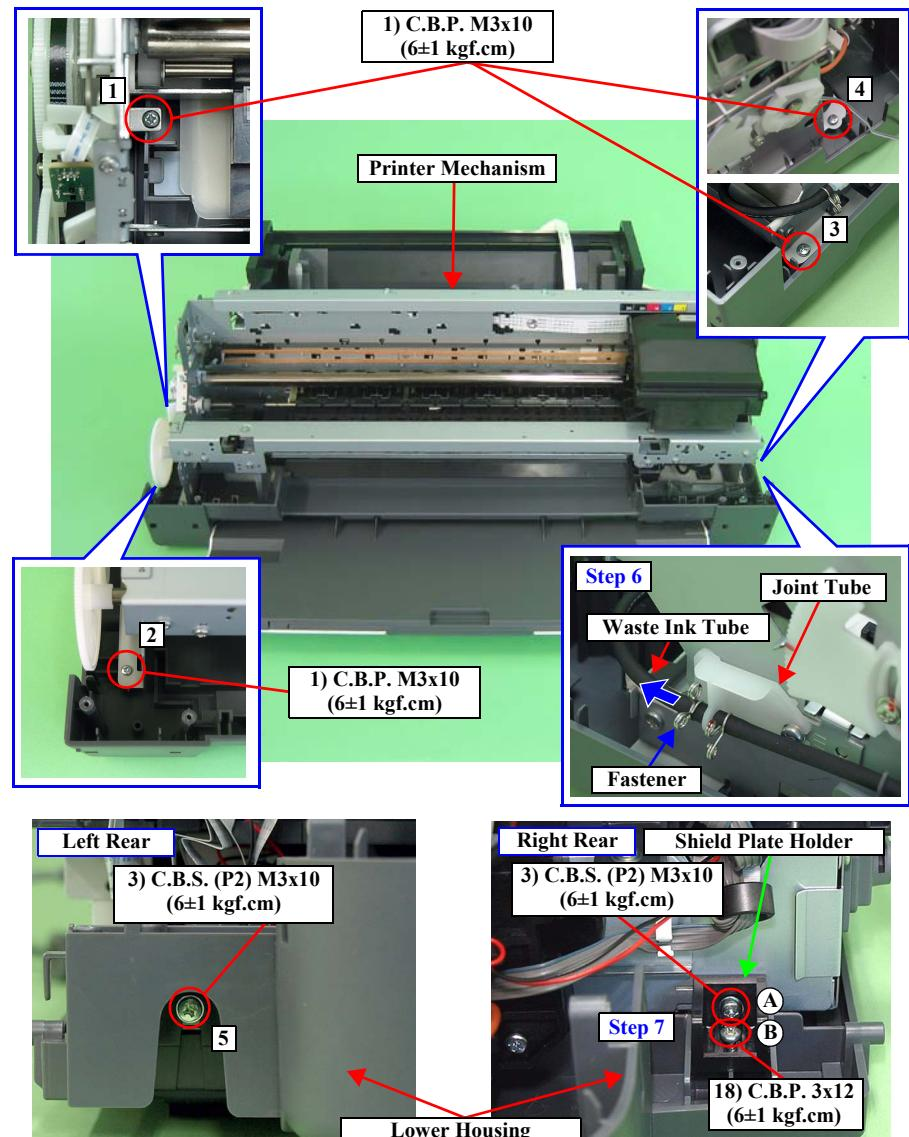

Figure 3-55. Screws that Secure the Printer Mechanism
- Install the Printer Mechanism to the Lower Housing as follows. (refer to Figure 3-55)
2. Place the Printer Mechanism on the Lower Housing and secure the Shield Plate Holder and the Printer Mechanism with the screw (A).
4. Secure the Printer Mechanism and Lower Housing with screws (x5). (Tighten the screws in the order shown in Figure 3-55)